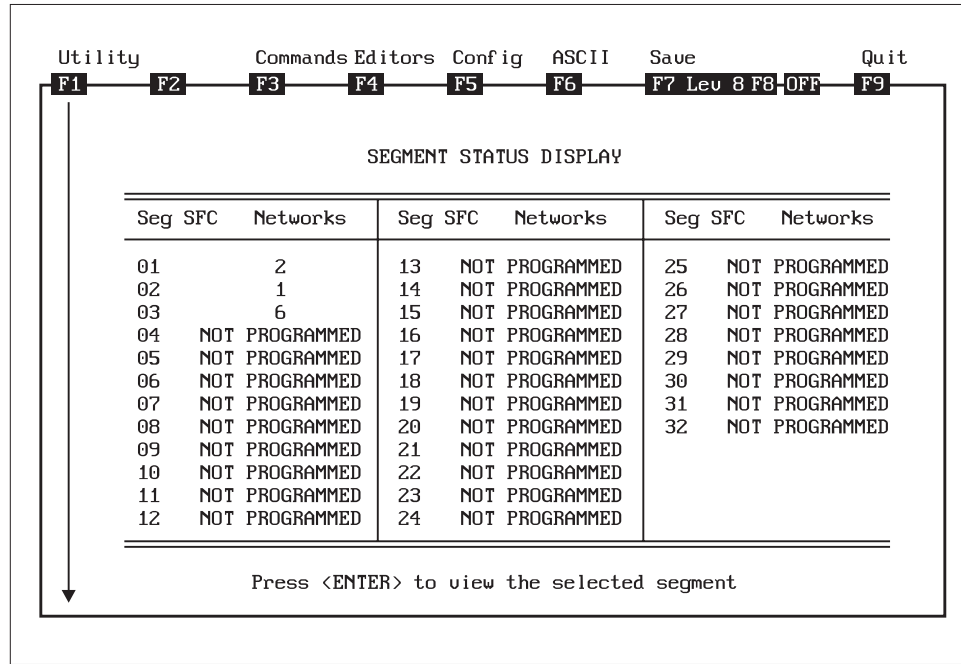

Figure 5-8
- o The Ladder Diagram screen displays. See Figure 5-8.